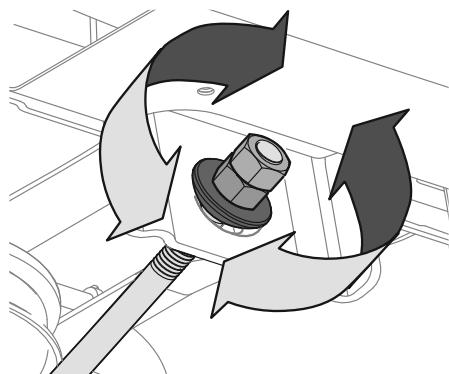

Figure 29
- To raise the front of the deck, loosen the outer nut then tighten (thread inward) the inner nut against the front hanger bracket. See Figure 29. When proper adjustment is achieved, re-tighten the outer nut to 25-30 ft.-lbs (34-40.7 N·m).
- To lower the front of the deck, loosen the outer nut then loosen (thread outward) the inner nut, away from the front hanger bracket. See Figure 29. When proper adjustment is achieved, re-tighten the outer nut.